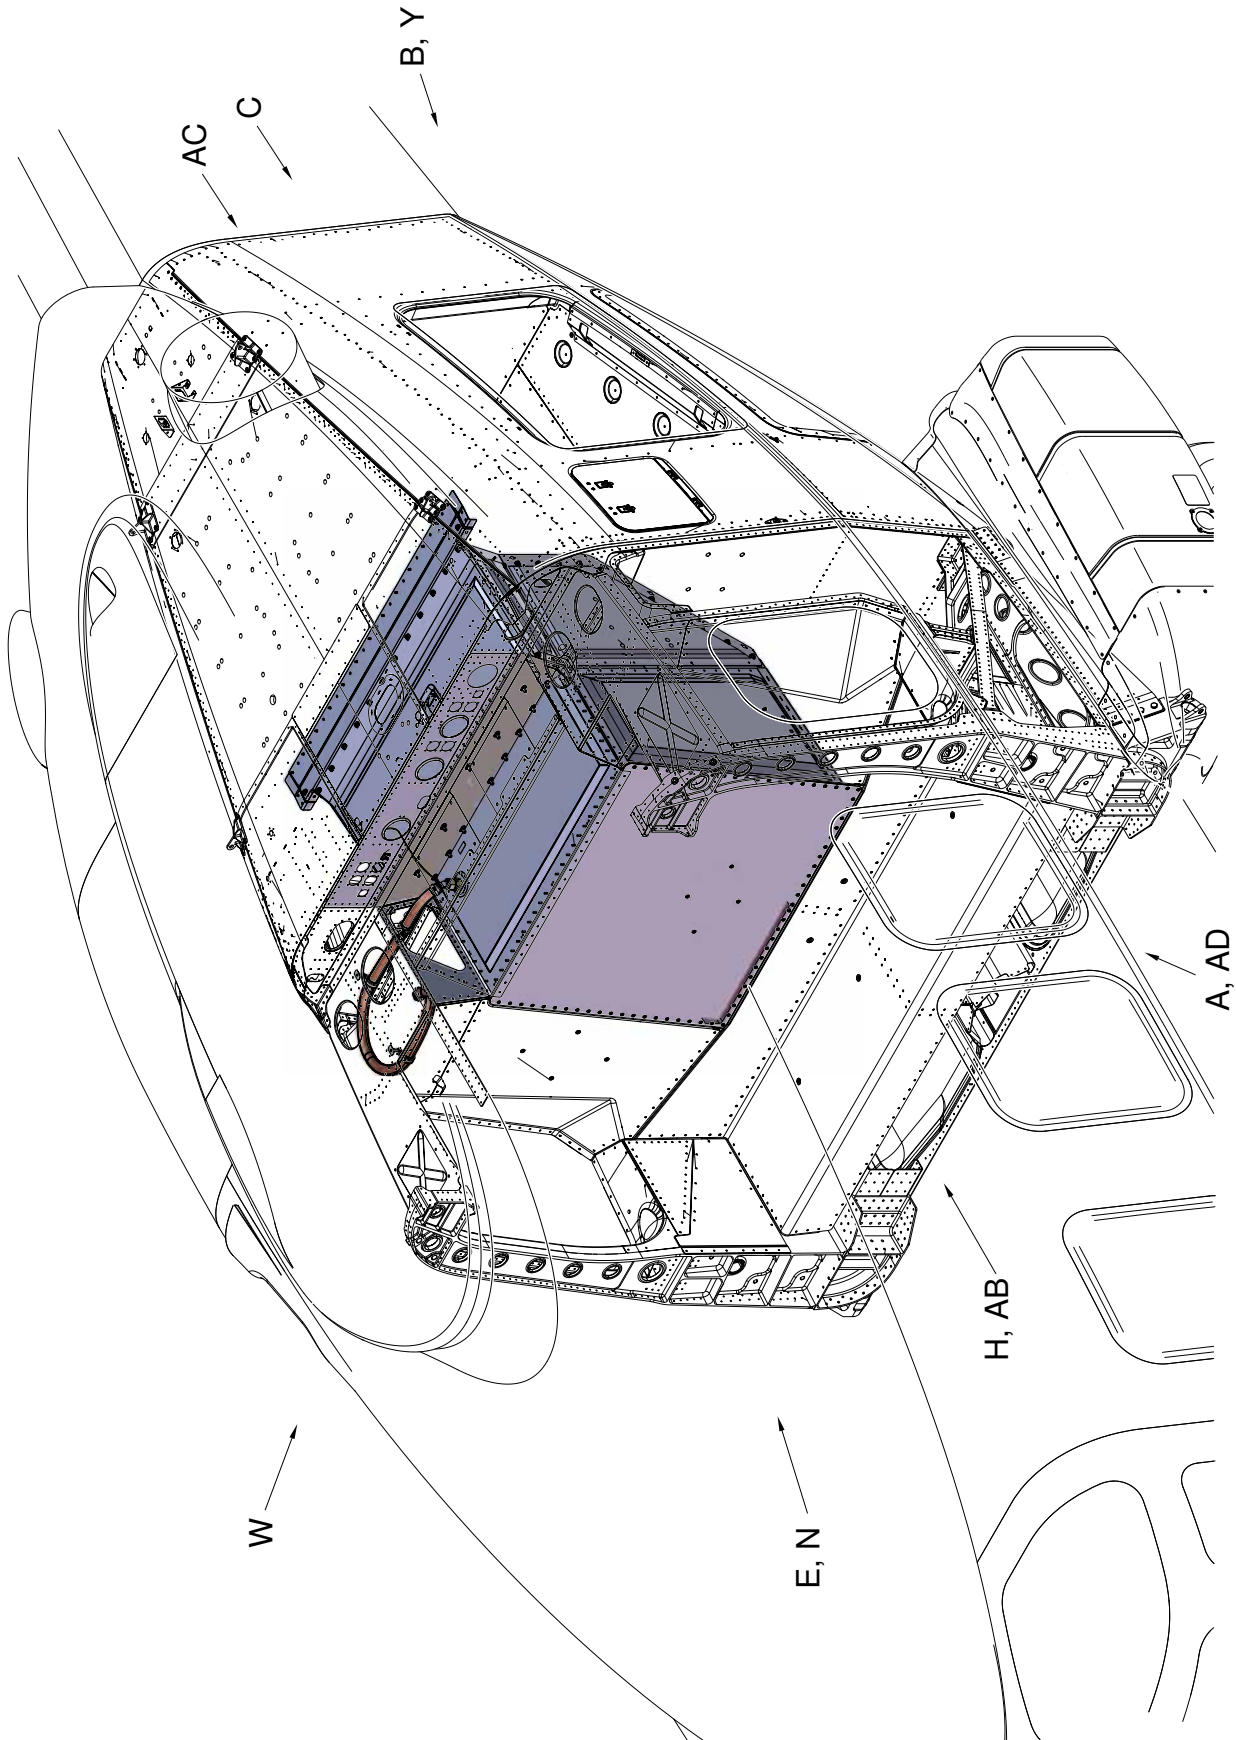

Figure 1
3. With reference to Figures 1 thru 9 perform the removal of the retromod as described in the following procedure: